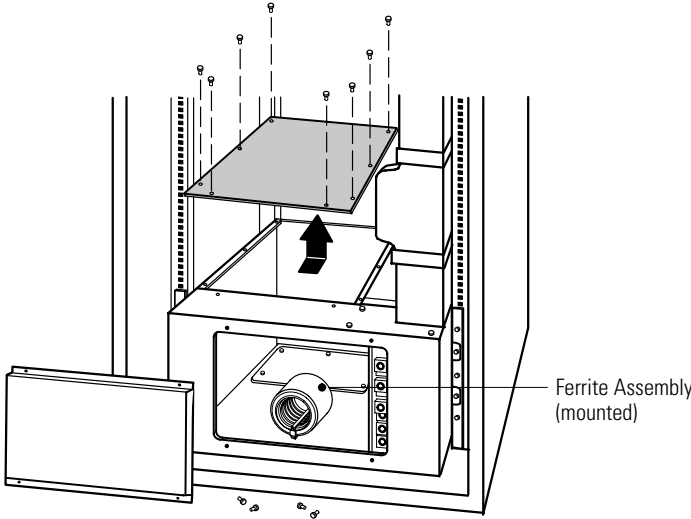
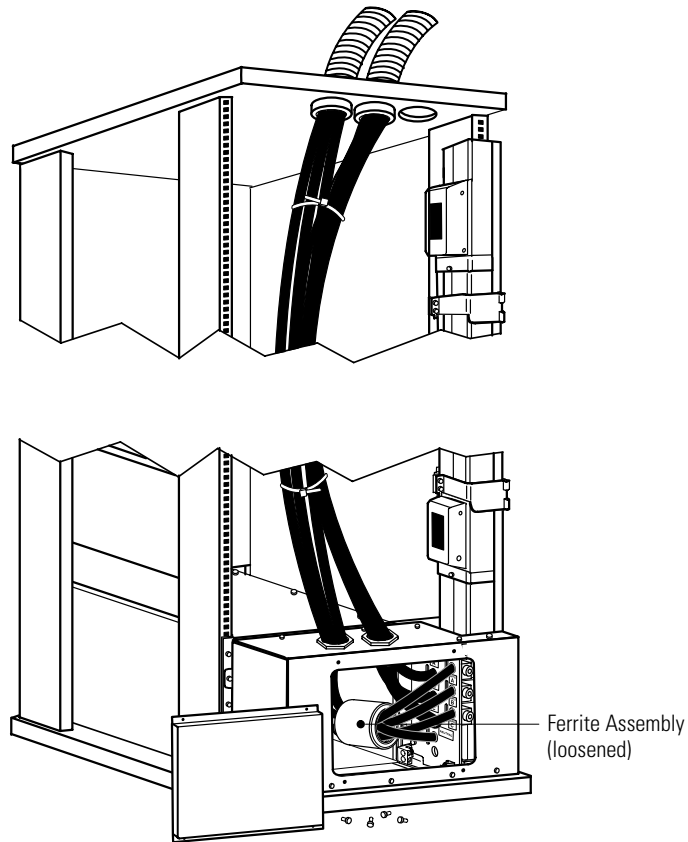
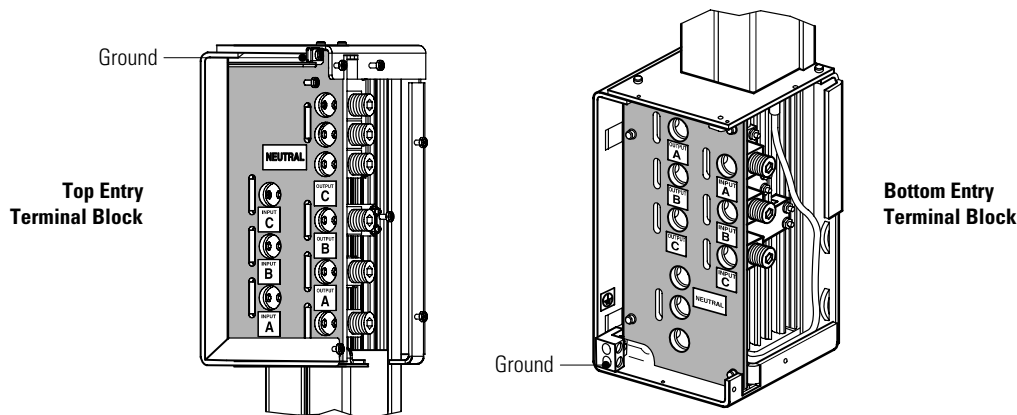

Figure 5. Removing the Wireway Top Cover (Bottom Entry Shown)
Figure 7. Top Entry Wiring in a Bottom Entry Rack
Figure 8. BladeUPS Bar Terminal Block
- 3. Remove the eight screws on the wireway top cover and retain. Slide the cover back and off the wireway and retain. See Figure 5.
7. **Top entry wiring in a bottom entry rack only.** Use a Greenlee punch to provide one or more holes in the top of the wireway. Install one or more holes in the center rear of the top of the rack. See Figure 7.
8. Connect the input, output, and ground wires to the BladeUPS Bar terminal block according to Figure 8 and Table 2. Route the three input phases and the input neutral through the mounted or loosened ferrite assembly (see Figure 5 or Figure 7).